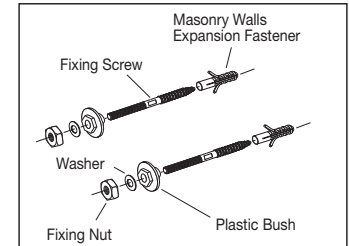

Fig. 2
- 3- Insert expansion fasteners into the drilled holes in masonry wall. The Fixing Screws, should be screwed into the wall using the flat section of the Fixing Screw, with a spanner as shown in **Fig. 2**.